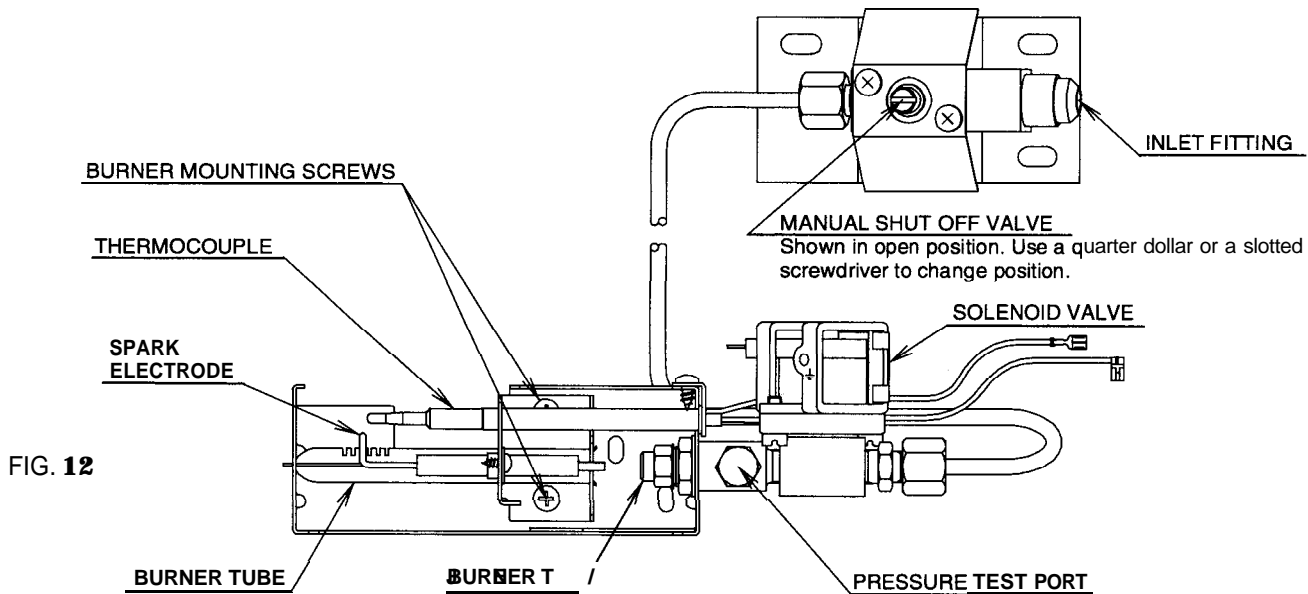

FIG. 12
- D. The LP gas pressure should be checked and the main regulator re-adjusted if pressure is incorrect. The correct operating pressure is 11 inches of water column. The correct place to take the LP gas pressure is at the test port just ahead of the burner jet. (See FIG. 12).
6. Remove the burner mounting screws and remove the burner assembly. (See FIG. 12).
Set main regulator so pressure does not drop below 11 inches water column at pressure test port (see page 12, FIG. 12).